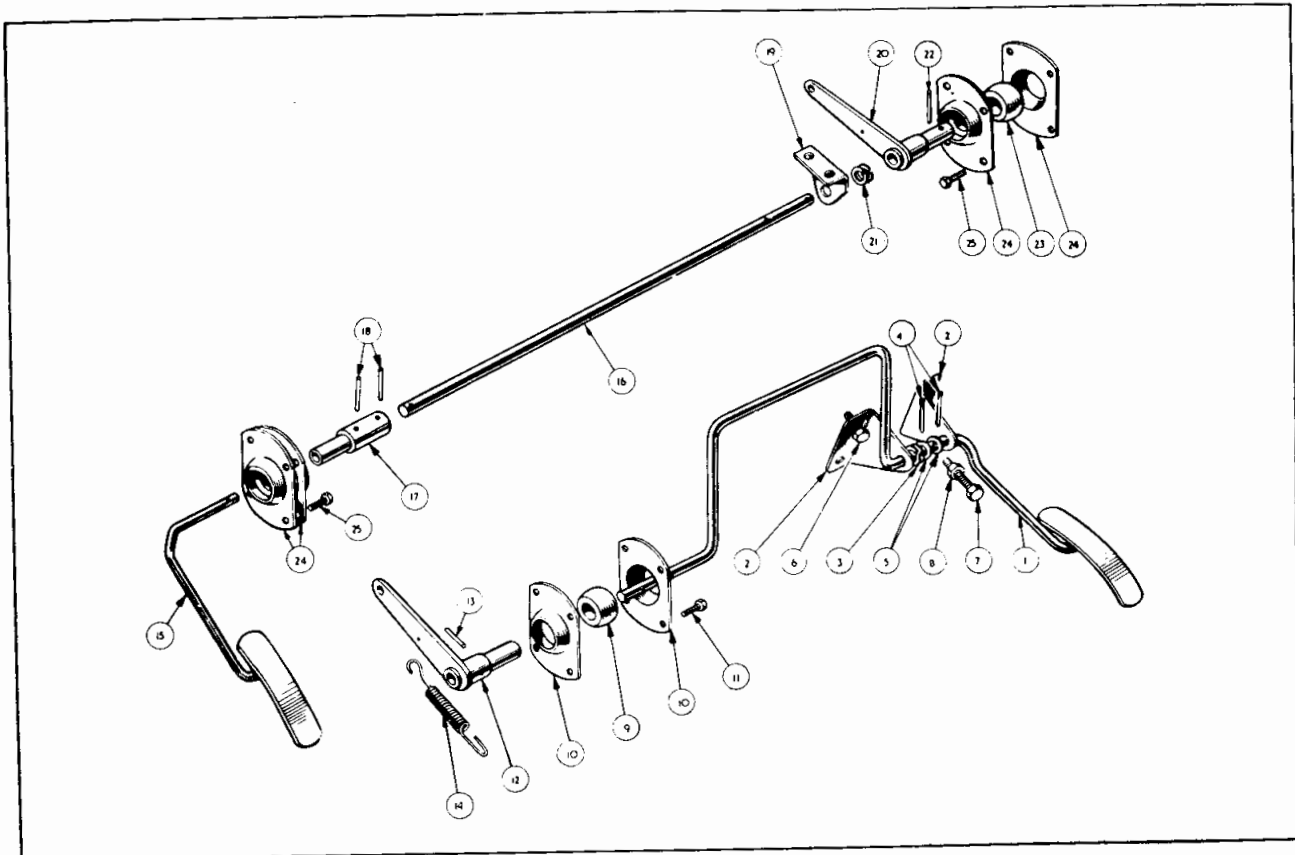

Fig. 7
30. TO REMOVE ACCELERATOR PEDAL, R.H.S. (Fig. 7)
31. TO FIT ACCELERATOR PEDAL, R.H.S. (Fig. 7)
32. TO REMOVE ACCELERATOR PEDAL, L.H.S. (Fig. 7)
NOTATION FOR Fig. 7.
33. TO FIT ACCELERATOR PEDAL L.H.S. (Fig. 7)